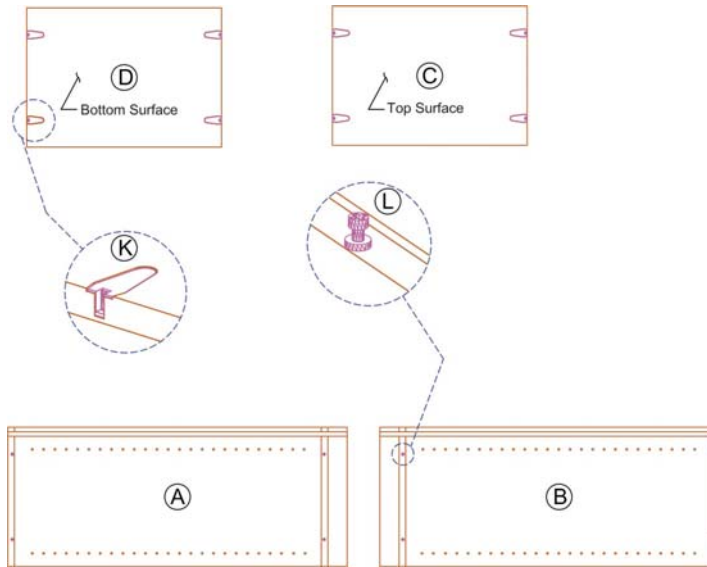

Figure 1
2. Find the four connector stud holes located on the side panels A and B and screw the (4) connector studs [L] into the holes as shown in **(Figure 1)**. **(Be careful not to over-tighten the connector studs)**. For best results it is recommended that you put a bead of wood glue in all slots prior to assembly.